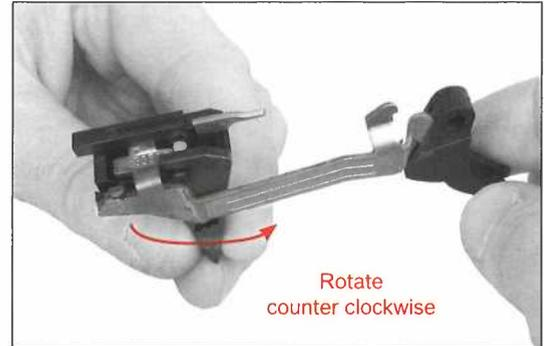
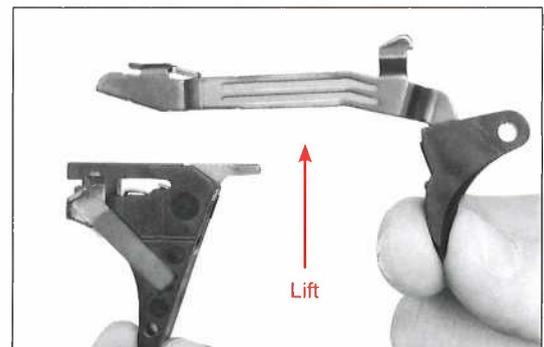

Fig. 236
Fig. 237
- Holding the trigger mechanism housing and trigger bar as shown (Fig. 236), carefully work the front arm of the cruciform out from under the front metal 'hook' on top of the trigger spring assembly by twisting it slightly counter clockwise. This will allow the left arm of the cruciform to move out from the slot in the housing and off the drop safety shelf where you can lift it upwards from the assembly. (Fig. 237)